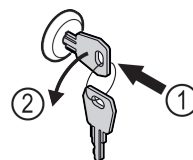

Fig. 165
- Insert the key. Fig. 165 (1)
- Turn the key anticlockwise by 90°. Fig. 165 (2)